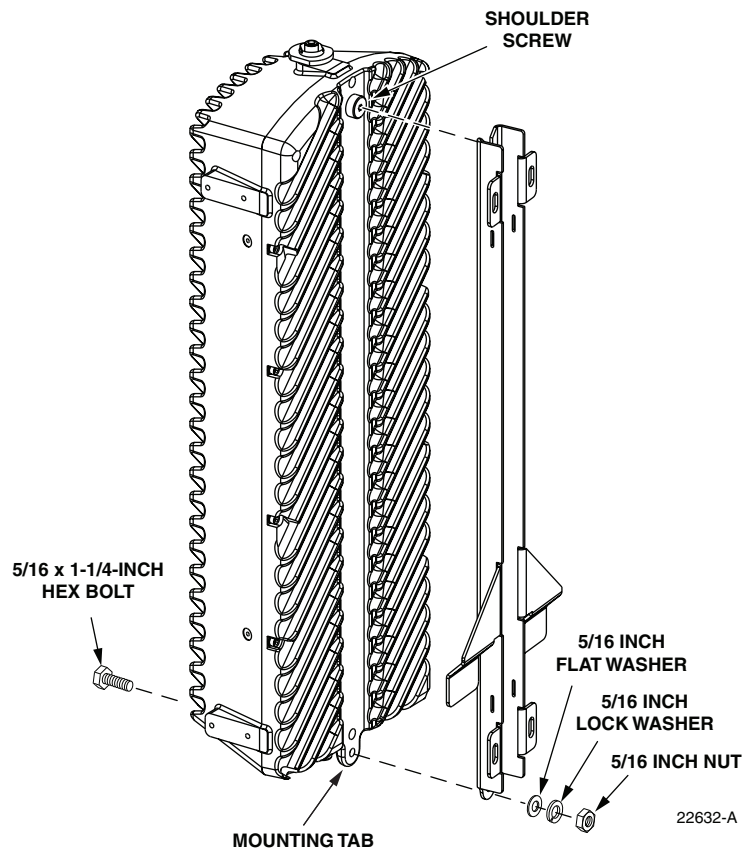

Figure 9. Secure Enclosure To Mounting Bracket
1. Hang the enclosure from the mounting bracket as shown in Figure 9. The shoulder screw in the rear side of the enclosure fits into the notch at the top of the mounting bracket.